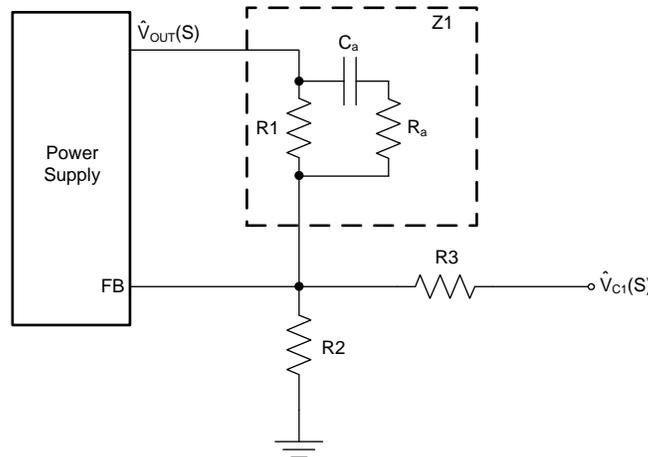

Figure 7. Block Diagram With Margining Circuit (Type-3 Compensator)
For the Type-3 compensator, there is an R-C network in parallel with R1. In this case, Z1 should be used to replace R1 as shown in Figure 7 and Equation 14.
- Z1 is defined in Figure 7